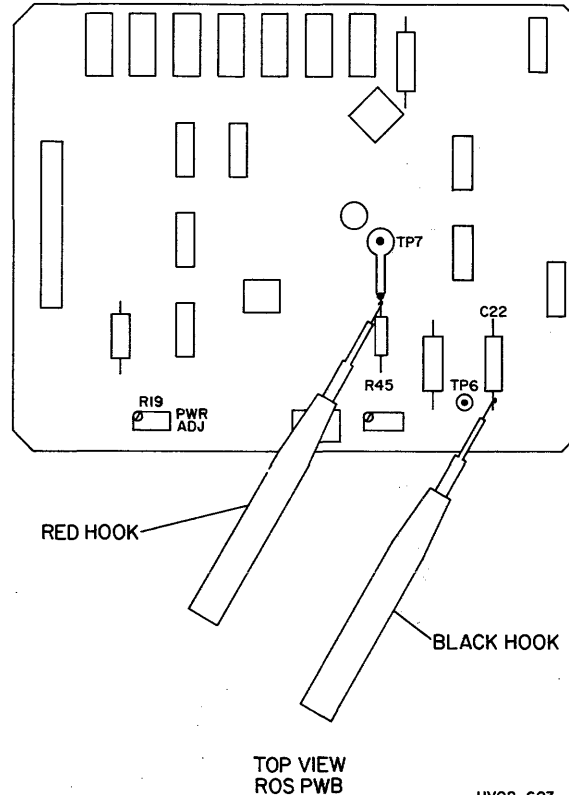

Figure 3-28. ROS Power Measurement
- b. Connect Spring Wire hooks to components as shown in Figure 3-28.